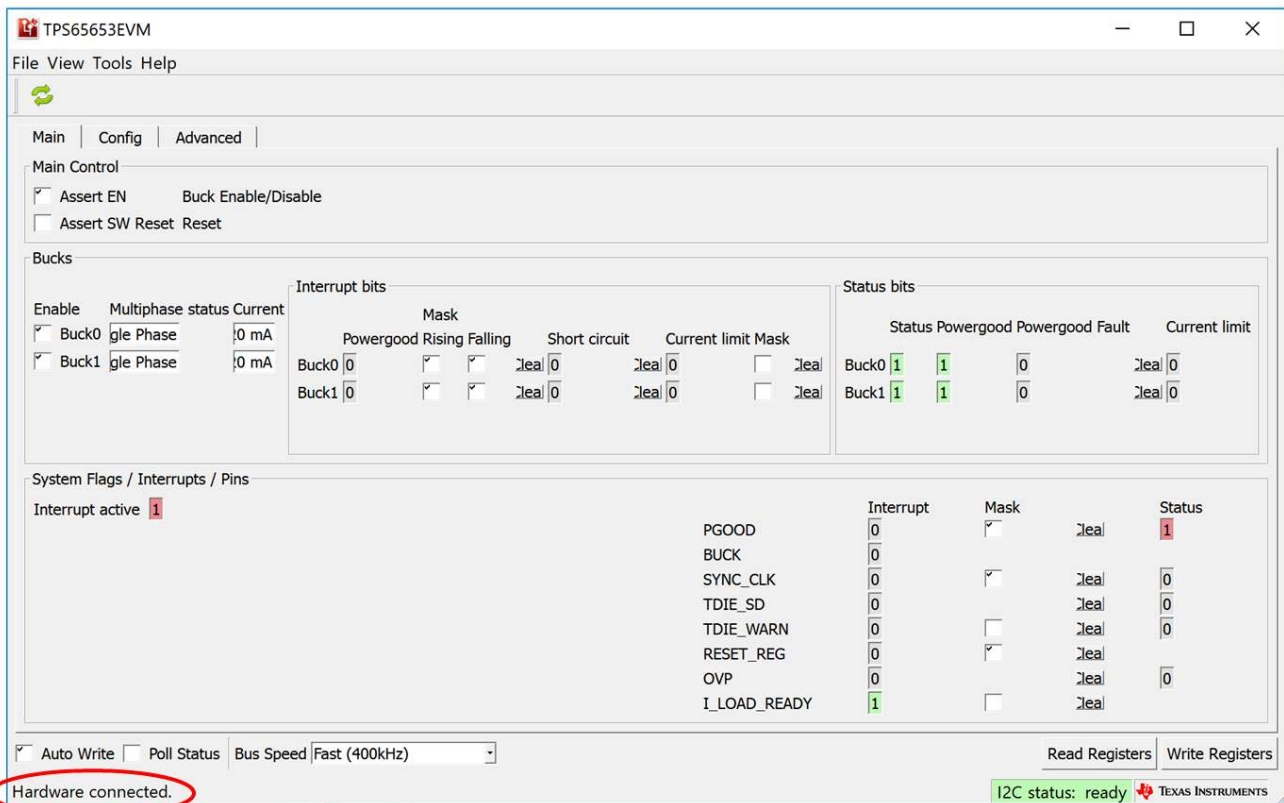

Figure 2. Evaluation Software GUI When EVM is Connected to the PC using USB Cable
2. On the evaluation software window bottom left corner, you should see text “Hardware connected”. Refer to Figure 2.